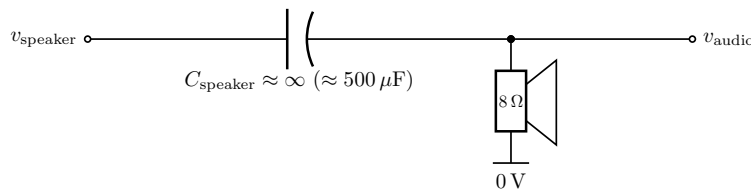

Figure 4.19: Speaker output.
- Attach the speaker to the current amplifier’s output, as shown in Figure 4.19.
- Again, attach the speaker and coupling capacitor to your circuit as in Figure 4.19.